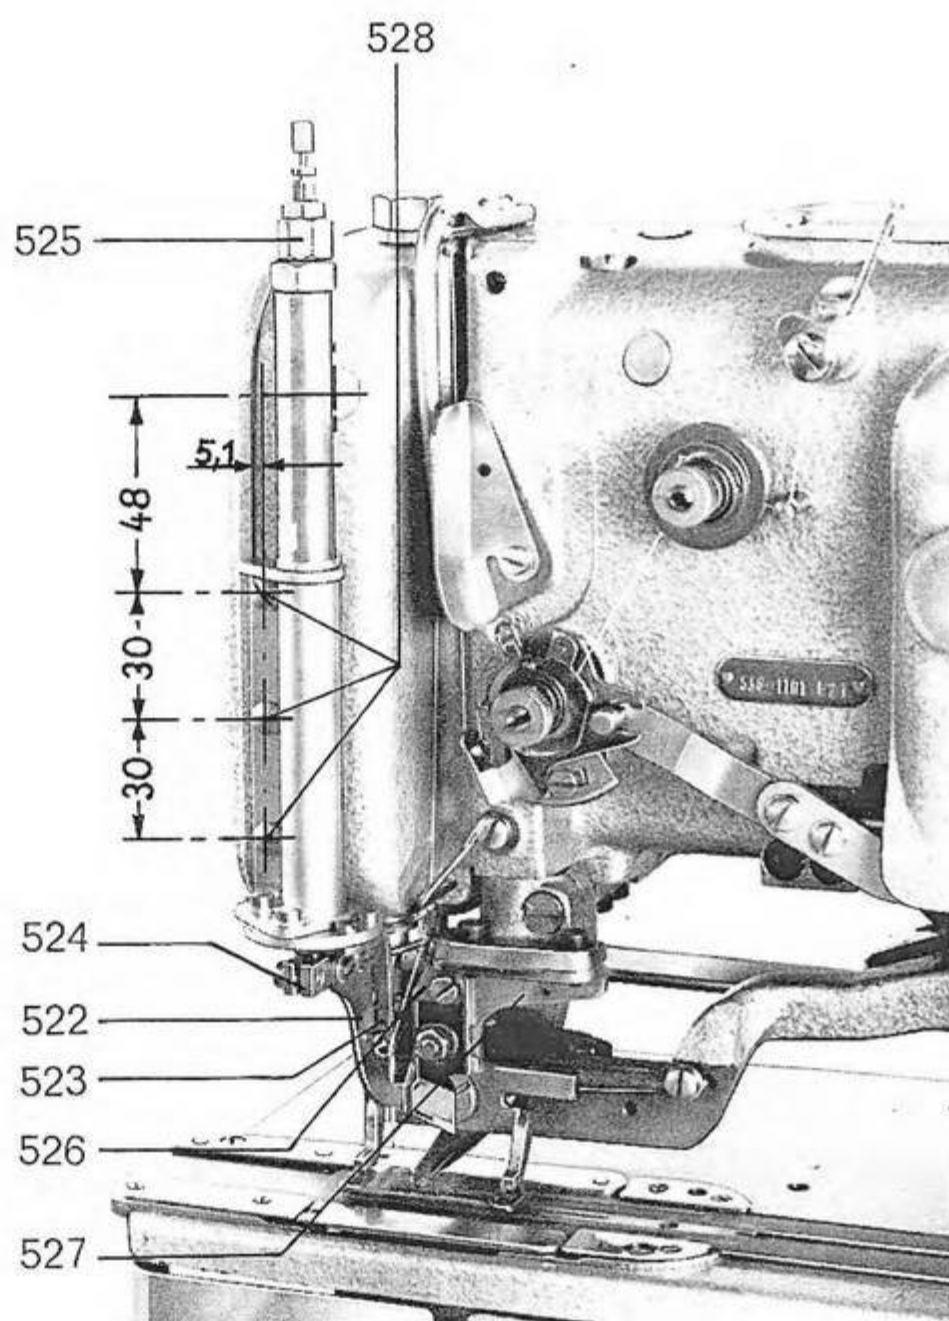

Fig. 136
Adjust the fabric holder 522 (fig. 136) after having loosened its fastening screws so that it moves in the fabric presser frame without touching same and that there is a certain distance with respect to the knife and to the needle bar. In this position, the fabric holder should move easily in the guide 523. Align the guide 523 accordingly.
The fabric holder should move quickly but not too suddenly. This can be adjusted by the throttle valve 525 (fig. 136).
1. Replace the knife reception plate 290 (fig. 119) and the angular holder 287 by the knife reception plate 526 (fig. 136) and the angular holder 257 included in the accessories.
2. Remove the three screws on the r/h side of the head and fasten the sub-assembled fabric holder by the available screws 528 as shown in fig. 136. In older machines, drill for this purpose three M4 holes according to fig. 136.